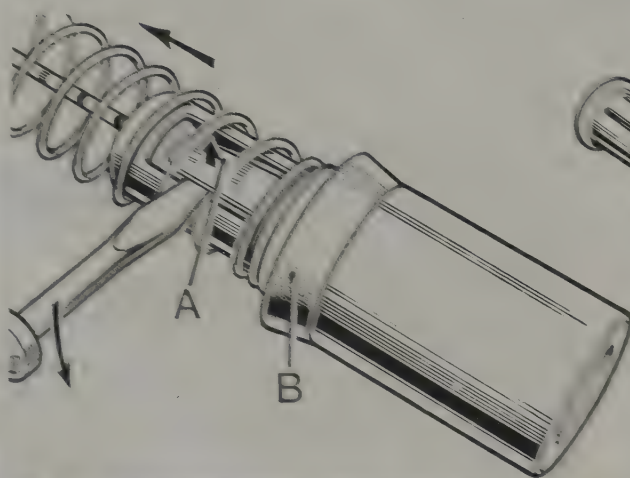

Fig. 5.5. Disconnecting master cylinder piston from retainer
- 4 Prise up the locking prong that retains the spring and separate it from the piston (Fig. 5.5).